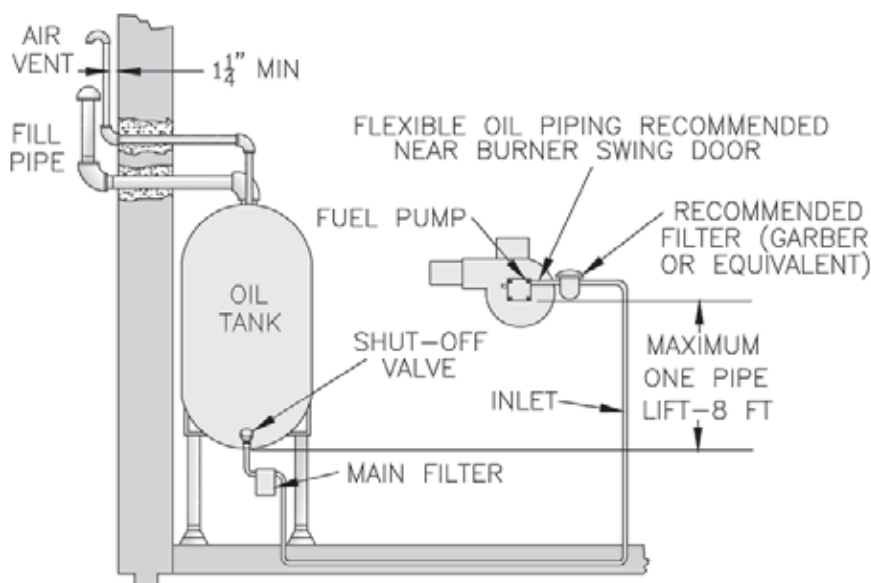

Figure 35: Single Pipe Oil Line
2. The single-stage fuel unit may be installed single-pipe with gravity feed or lift. Maximum allowable lift is 8 feet. See Figure 35.